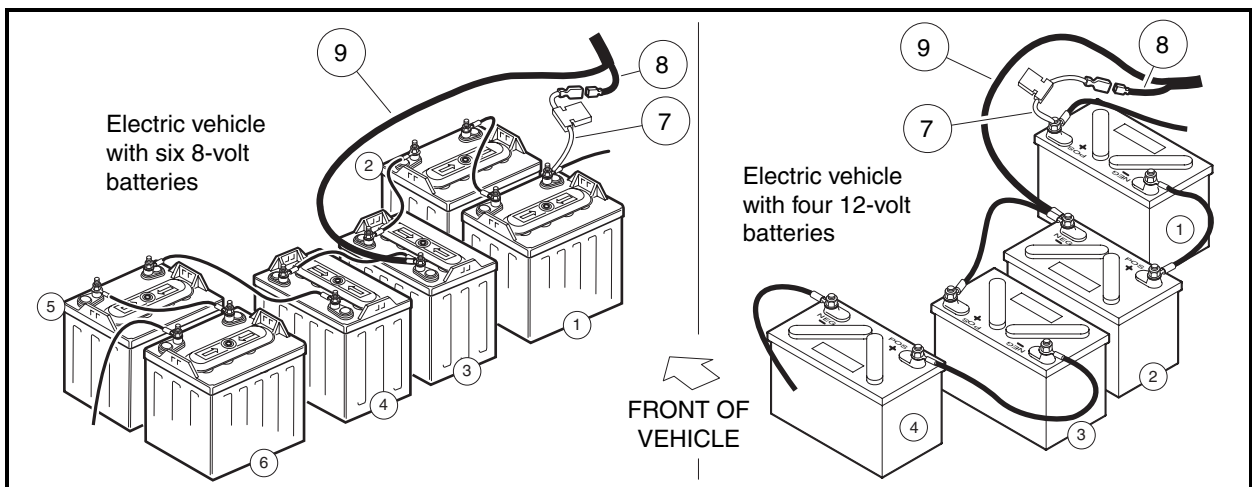

Figure 18 Power Wire Connections - Electric Vehicle
- 3.12. Connect the red wire with in-line fuse and male terminal (7) to the female terminal on the power wire (8) (**Figure 18**).